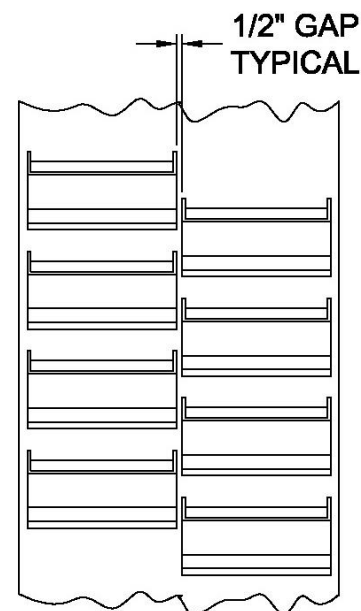

Fig. 29 – Staggered buckets
10. If buckets are attached after belt is spliced, fasten a bucket (or row of buckets) to pre-punched holes in belt. Skip five- or 10-hole patterns and attach next bucket(s). Multiple buckets in same row will be staggered as shown in Fig. 29. Continue this until one complete revolution is made through elevator. Start fastening buckets in center of gap between previously installed buckets.